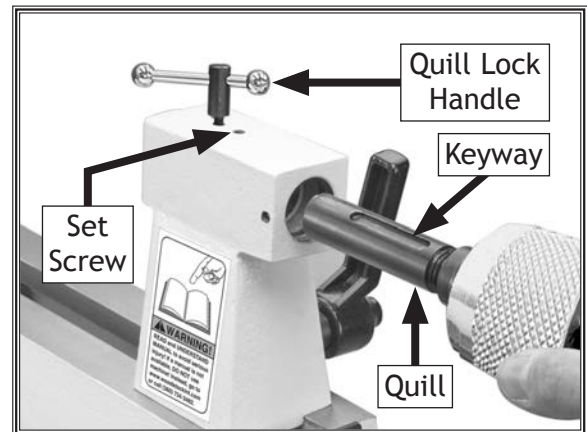

Figure 23. Tailstock quill alignment slot.
5. Make sure set screw (see **Figure 23**) is aligned with quill keyway to ensure center and quill will not freely rotate under load.